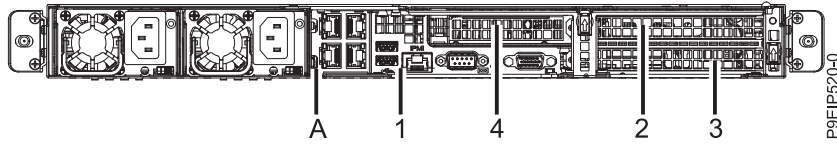

Figure 57. 9006-12C PCIe adapter positions
2. An adapter can share a PCIe riser card with other adapters. Label and remove any cables and plugs that extend out of the adapters. See Figure 57 on page 97.